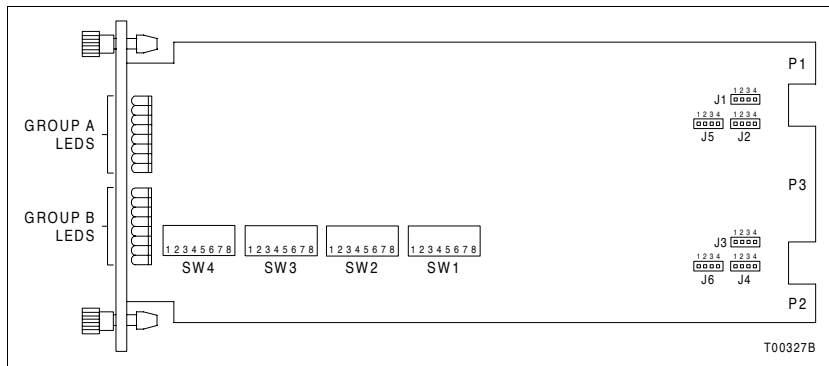

Figure PR5-1. INNIS01 Layout
This procedure describes the steps required to set up the INNIS01 module of the HCU interface (Fig. PR5-1). Both switches and jumpers must be set before putting the module into operation.
1. Set the node address with switch SW1 (Fig. PR5-1). The address must be unique. Valid node addresses are from one to 250. Table PR5-1 lists some example node address settings.